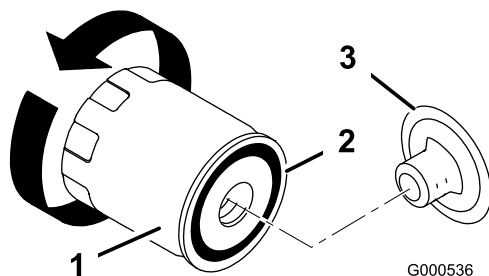

Figure 27
9. Change the oil filter, if necessary (Figure 27).
2. Remove the old filter and wipe the filter adapter gasket surface (Figure 27).
3. Apply a thin coat of clean oil to the rubber gasket on the replacement filter (Figure 27).
tighten the filter an additional 1/2 to 3/4 turn (Figure 27).